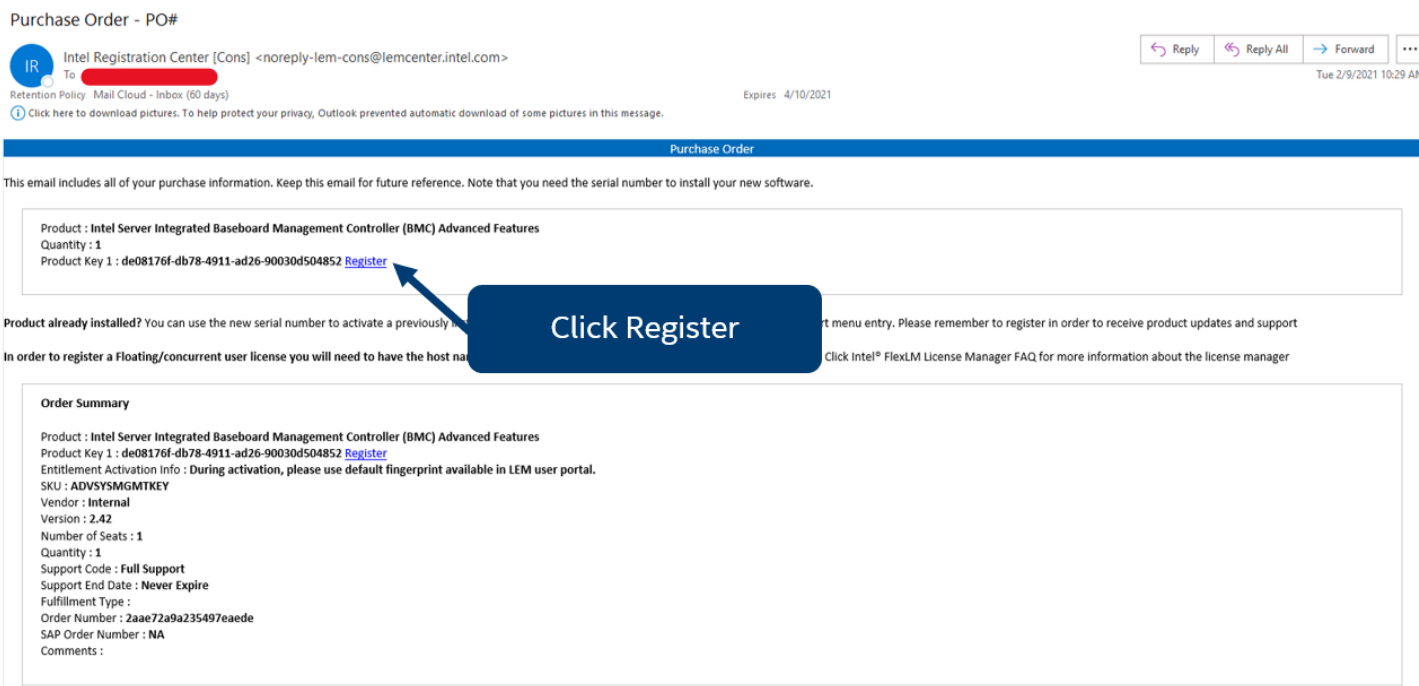

Figure 71. Example Email
3. From the email, Click the **Register** link (see Figure 71) to go to <https://servertools.intel.com/registration>